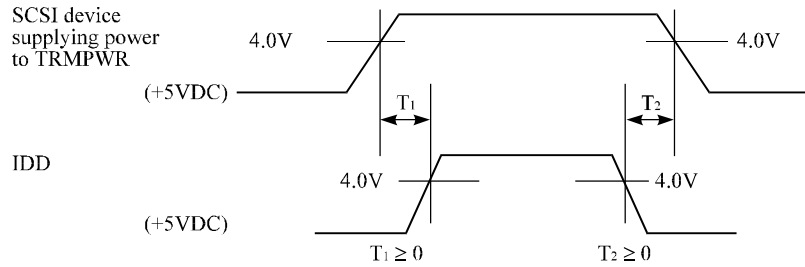

Figure 4.14 Power on/off sequence (1)
(3) Power on/off sequence
- b) In a system which uses the terminating resistor power supply signal (TERMPWR) on the SCSI bus, the requirements for +5 VDC given in Figure 4.14 must be satisfied between the IDD and at least one of the SCSI devices supplying power to that signal.